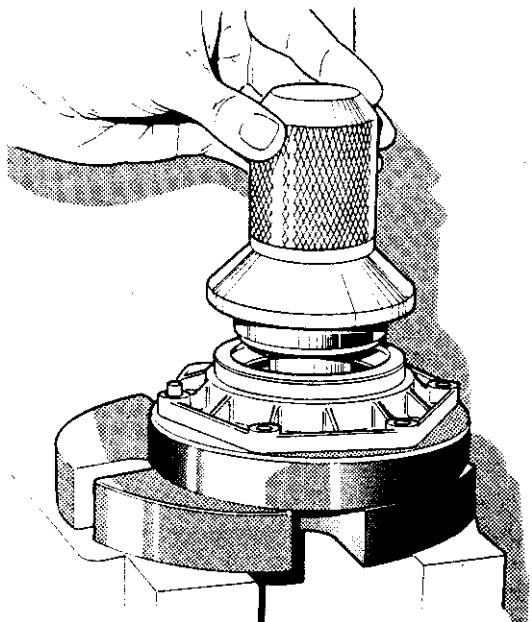

Figure 8 Replacing rear cover oil seal
3. Carefully press a new seal in to the rear cover. To ensure the seal is seated correctly, use a press tool similar to that shown in (Figure 8).